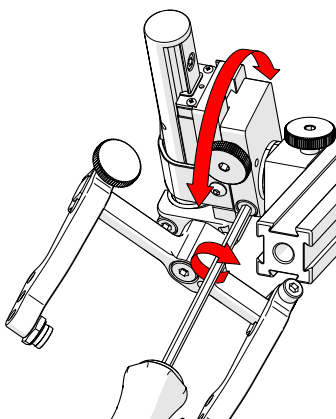

Fig. 185 - Rotate to position
3. Rotate the main body of the probe holder until it is at the desired angle (*Fig. 185*).
4. Tighten the longitudinal adjustment screw (*Fig. 185*).